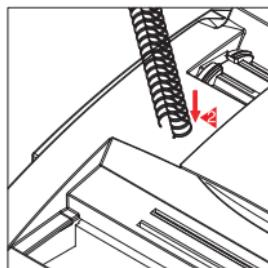

Figure-4
► Avoid taking wrong wire comb; you can measure the wire comb size as shown figure-4.